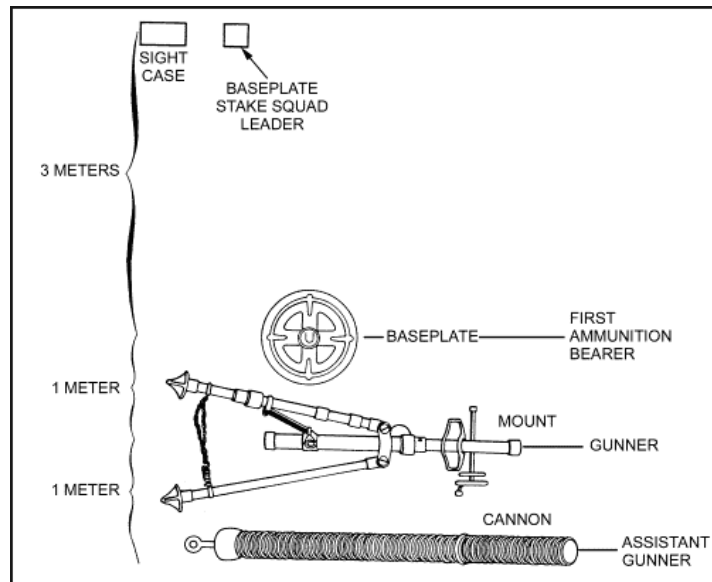

Figure 5-6. Layout of equipment.
(1) The rotatable socket cap moves freely and has a light coat of oil.
(2) The ribs and braces are free from breaks and dents, and the inner ring is secured to the outer ring (M23A1 baseplate).
e. The *squad leader* supervises the conduct of squad drill and is responsible for supervising the laying out of the equipment as shown in Figure 5-6. The equipment is placed out the same for the gunner's examination.